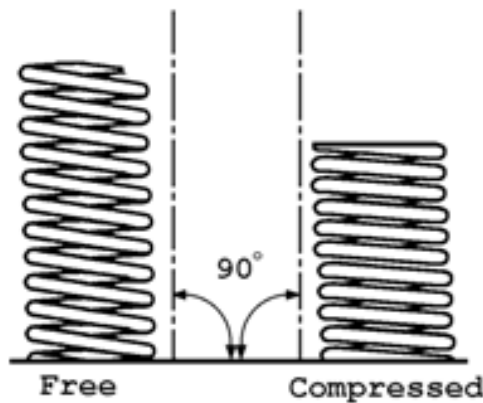

Fig.32
- A valve spring which does not stand at 90° (perpendicular) to a flat surface will bulge as shown in Fig. 32 when the valve is open.